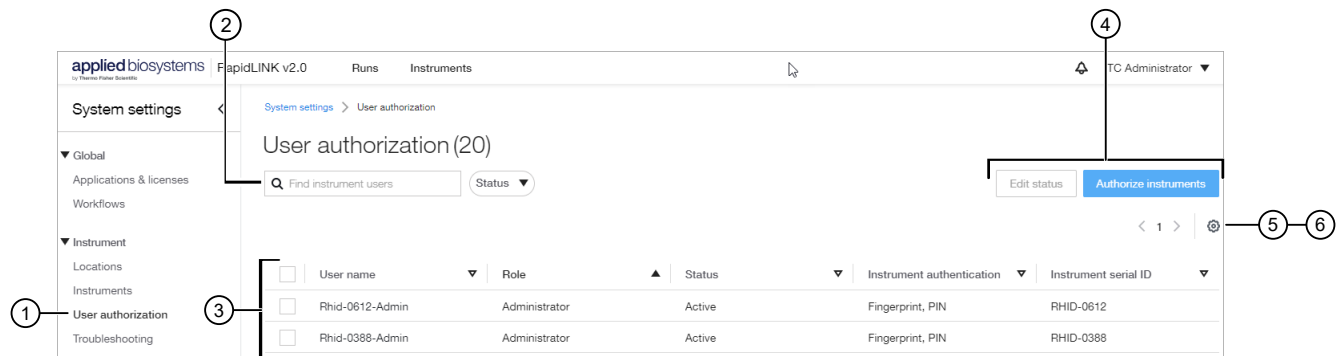

Figure 19 User authorization screen
3. Depending on your user role permissions, you can use the screen tools to perform the functions shown in Figure 19.